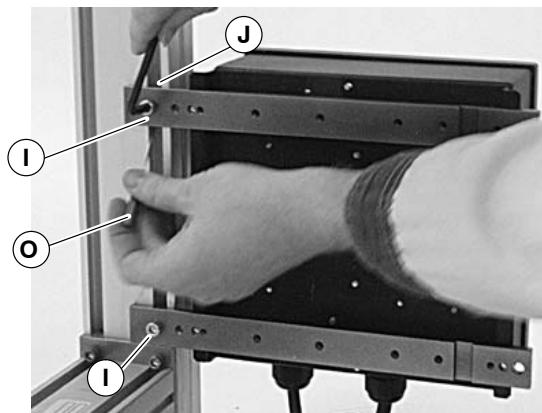

Figure 16
4. With screwdriver (O of Figure 16), raise T-bar (J) to align it with hole in top mounting bar. Insert M6 screw (I) and partially thread into T-bar.
5. Slide controller to its desired mounting location (Figure 17) and tighten both screws (I of Figure 16).